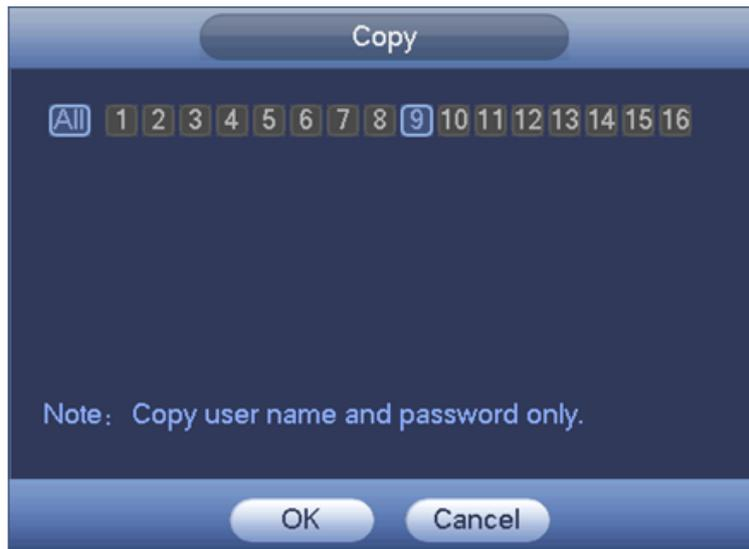

Figure 4-29
- ◇ Click Copy, device pops up the following dialogue box. It is to copy the user name and password to the selected channel(s). See Figure 4-29.